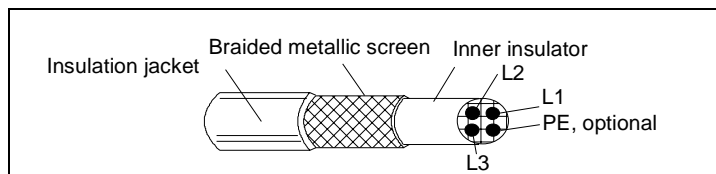

Figure 8 Effective motor cable screen (e.g. Ölflex-Servo-FD 780 CP, Lappkabel or MCMK, NK Cables).
The general rule for cable screen effectiveness is: the better and tighter the screen of the cable, the lower the radiated emission level. Example of an effective construction is presented in Figure 8.
* Effective motor cable screen is required, according to Figure 8.
For ACS 101-4K1-1 and ACS 103-4K1-1, a cable shown in Figure 8 is required.
With input filters ACS100-FLT-C or ACS140-FLT-C conducted emission complies with the limits for unrestricted distribution class in First Environment as specified in EN 61800-3 (EN 50081-1) provided that the motor cable has effective screen (see Figure 8) and maximum length is 30 m.
The motor cable lengths have to be limited as specified in Table 6 and the cable must have effective screen according to Figure 8. At the motor end, the cable screen must be earthed 360 degrees with an EMC cable gland (e.g. Zemrex SCG screened cable glands).